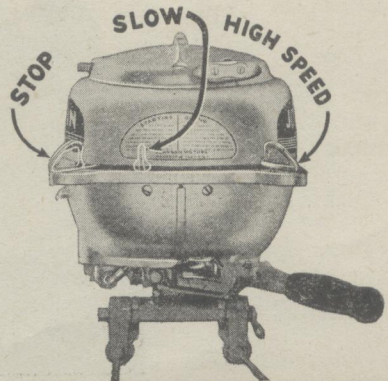

Fig. 9
Magneto and carburetor levers are synchronized, that is, operating in unison upon moving the magneto lever. Fig. 9. This feature is of value in that any desired speed, within the limits of the motor, can be obtained by merely shifting positions of the magneto lever; for full speed, shift to right; for intermediate and slow speeds shift to left (facing motor).
8. Advance spark by moving magneto lever to right (facing motor). Since spark and carburetor levers are synchronized, control of the carburetor is accomplished by movement of the magneto lever, that is, motor speed is controlled by shifting position of the magneto lever. Fig. 9.
11. To stop motor, move magneto lever to extreme left (stop position)—hold until motor stops running. Fig. 9.